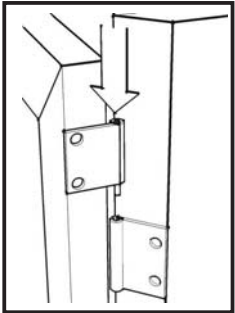

Figure 1
Attach Doors (T) and (U) by sliding the door lift hinges into the side panels lift hinges. (See Figure 1)
Attach V2 to V3 and V4 using long wood screws (4X), tighten halfway. (See Figure 1)